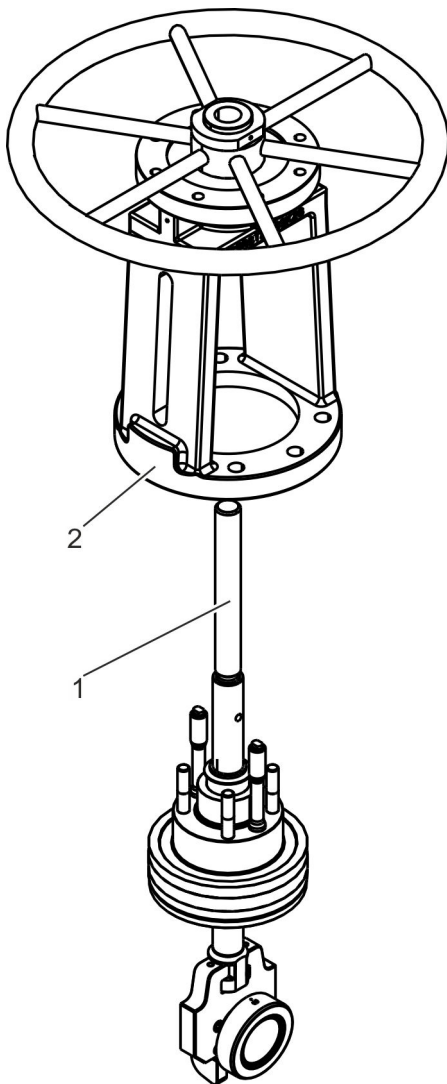

Fig. 41: Unscrewing the stem
- 17.** ➤ Unscrew the stem (Fig. 41/1) from the threaded bush on the bonnet (Fig. 41/2).